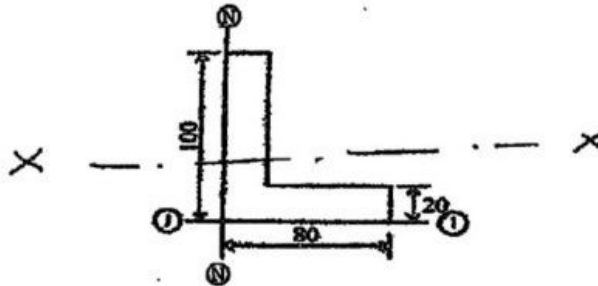

Fig.12 (b)(i)
- (b) (i) Find the moment of Inertia about the Centroidal axis XX as shown in Fig.12(b)(i). (7)